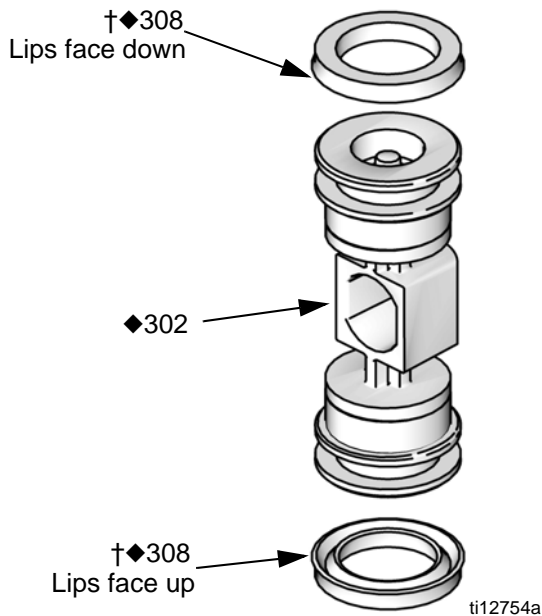

FIG. 10. Air Valve U-cup Installation
2. See FIG. 10. Lubricate the u-cups (308†♦) and install on the piston (302♦) with lips facing toward the center of the piston.